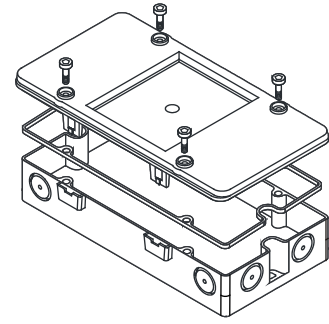

Fig. 4
5. Fix the lid additionally with four screws (Fig. 4). (Only this way is IP protection guaranteed.)